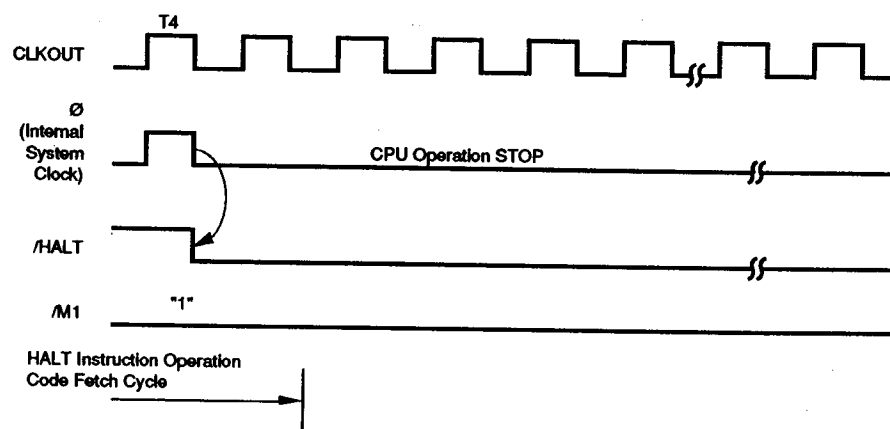

**Figure 33. IDLE2 Mode Timing**
**IDLE2 Mode (HALTM=01).** Shown in Figure 33 is the basic timing when the halt instruction is executed in IDLE2 Mode.